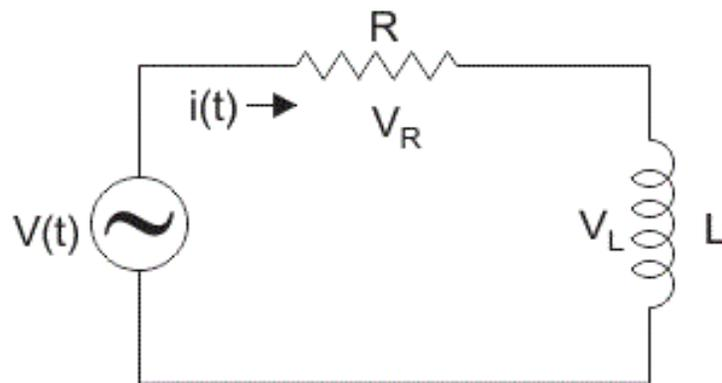

Figure 5.1
1. Connect the circuit as shown in the circuit diagram of fig. 5.1
3. Using figure 5.1 with E , R , and L Measure the current and voltage flowing through resistor and inductor .